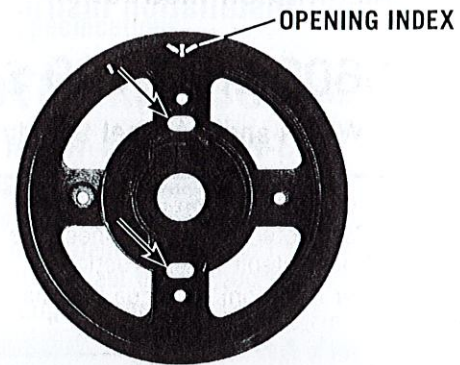

Figure 4
4. Attach the dial ring to the front of the container door or drawer by loosely installing the two provided attaching screws to hold the dial ring in place for alignment. The dial ring opening index should be at the 12 o'clock center position. Use either 8-32 or M4 screws, depending on the hole dimensions provided by the safe manufacturer. Standard screw hole locations are indicated by the two arrows in Figure 4.